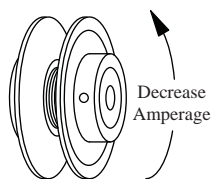

Fig. 6
- **Pulley adjustment.** With an ammeter, check the motor amperage. Adjust the pulley until the amperage draw on the motor is just below that specified on the motor nameplate. To adjust the pulley, loosen the adjustment set screw and rotate the sheave. Tighten the set screw so that it is over a flat area, otherwise thread damage will occur. To increase amperage draw, increase pulley diameter. To decrease amperage draw, decrease pulley diameter (Fig. 6). Recheck belt alignment.